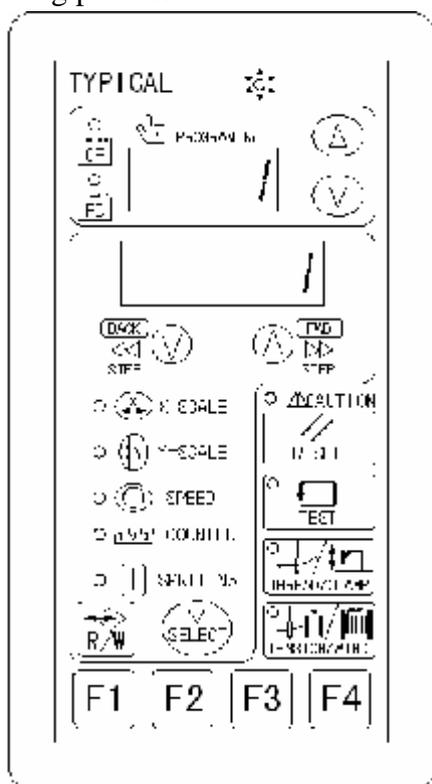

Fig. 5-9
1. In the sewing speed set-up interface, select the 1# pattern. Tread the pedal switch to 2nd gear to carry out pattern confirmation, and then tread the pedal switch to 1st gear and press  or  key to enter the pattern simulation interface, at this time, the presser foot frame and the middle presser foot are pressed down, the pattern section No. is displayed on the PROGRAM No. display area, needle No. is displayed on the menu display area (as shown in Fig. 5-9).